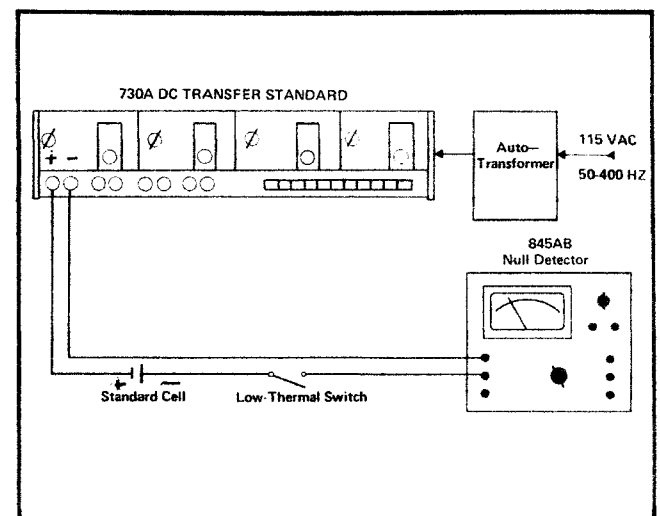

Figure 4-2. EQUIPMENT CONNECTIONS FOR LINE REGULATION, DC TO 1 Hz OUTPUT NOISE, TRANSFER ACCURACY, AND TURN OFF – TURN ON TESTS.
- Connect equipment as shown in Figure 4-2.
- a. Connect equipment as shown in Figure 4-2.